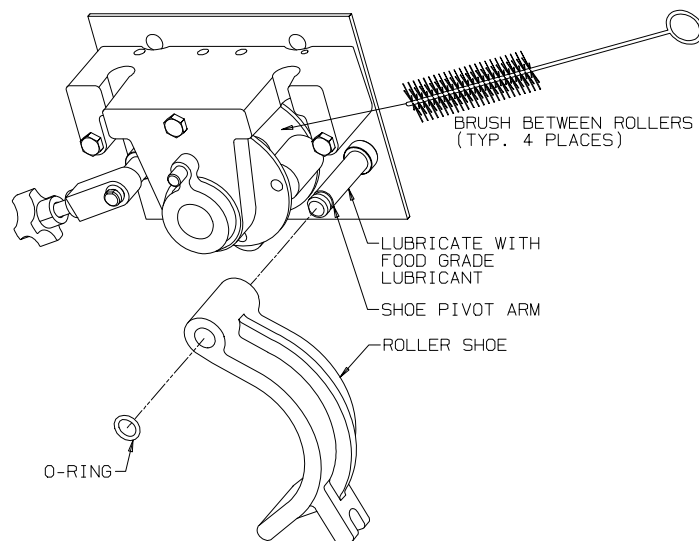

Figure 11-1
- g. Remove and clean roller shoe. See figure 11-1.